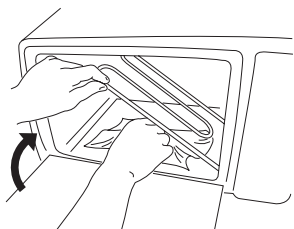
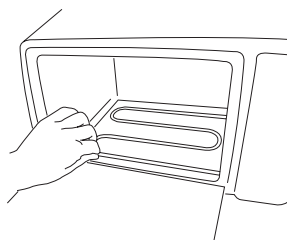

fig. 10
fig. 11
Never immerse the appliance in water; do not wash it by spraying it with water. The wire rack, dripping pan, and spit (if supplied) are washed like normal dishes, by hand or in the dishwasher. Always use a damp sponge to clean the outer surface. Avoid using abrasive products that may damage the surface finish (enamel or paint). Make sure water or liquid soap does not infiltrate through the slits on the right-hand side of the oven. To clean the inside of the oven, never use corrosive products and do not scrape the walls with sharp objects or blades. Only use non-abrasive liquid detergents. Do not attempt to push forks, knives or sharp objects into the openings on the right-hand side and the rear of the oven. To make the bottom of the oven easier to clean, the lower heating element (L) must be raised by pulling it upwards and to the right (see Figure 10). After cleaning, fasten the heating element back in place, as shown in Figure 11.